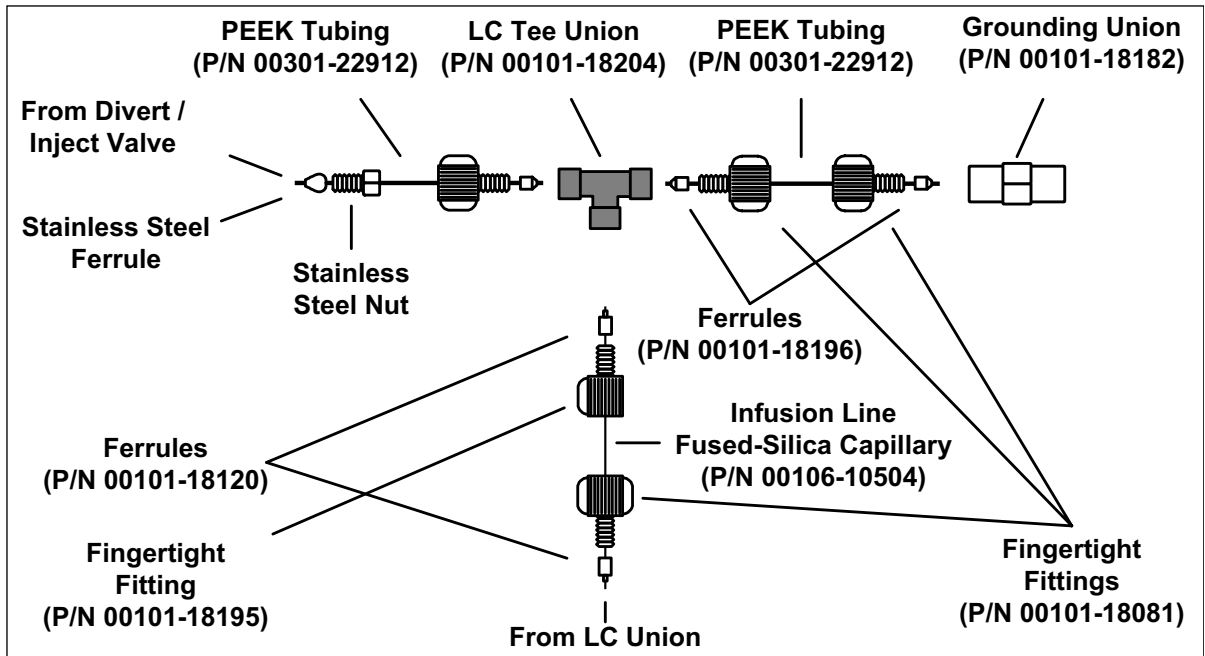

Figure 30. ESI/MS plumbing connections for the LC Tee union
6. Connect the fused-silica infusion line from the (black) LC union to the (black) LC Tee union, as follows. See Figure 30.
- b. Connect the other end of the PEEK tubing with a (brown) fingertight fitting and a (brown) ferrule to the free end of the LC Tee union. (See Figure 30.)